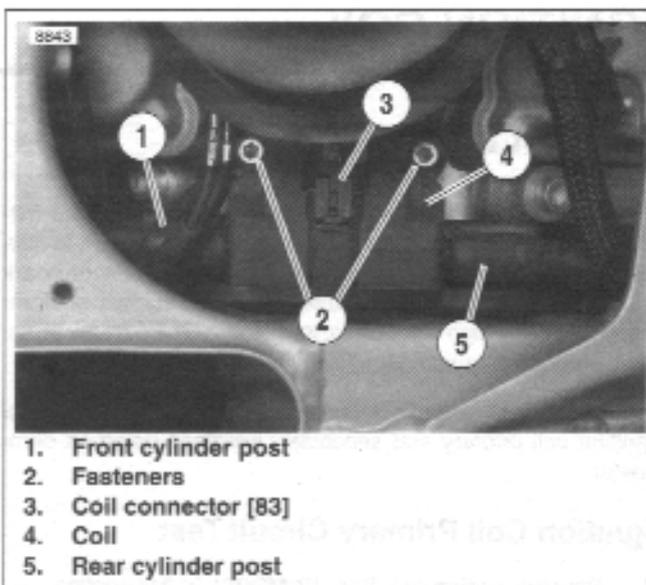

Figure 4-72. Ignition Coil Location
4. See Figure 4-72. Disconnect the spark plug cables from the coil plug posts (1, 5).
5. Detach connector (3) [83].
6. Remove coil fasteners (2).
2. See Figure 4-72. Attach coil to frame with fasteners (2). Tighten to 144-168 in-lbs (16.3-19.0 Nm).
4. Attach connector (3) [83].